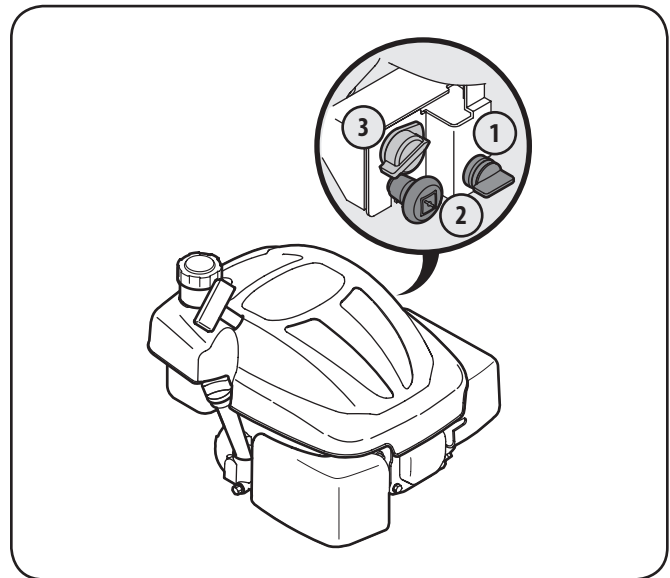

Figure 5-2
1. If equipped, turn on fuel valve located on the engine. See Fig. 5-2.